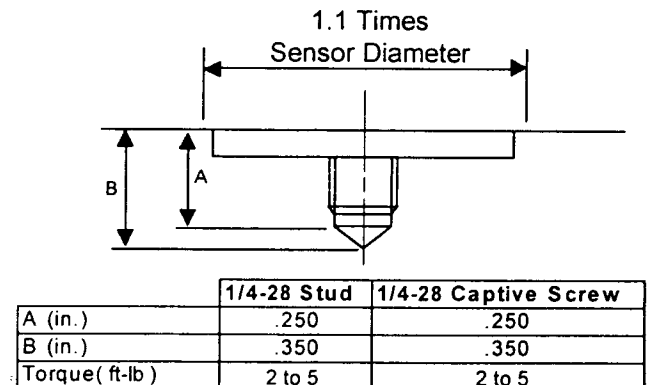

Figure 5. Mounting Surface Preparation
STEP 1: First, prepare a smooth, flat mounting surface, and then drill and tap a mounting hole in the center of this area as shown in Figure 5.